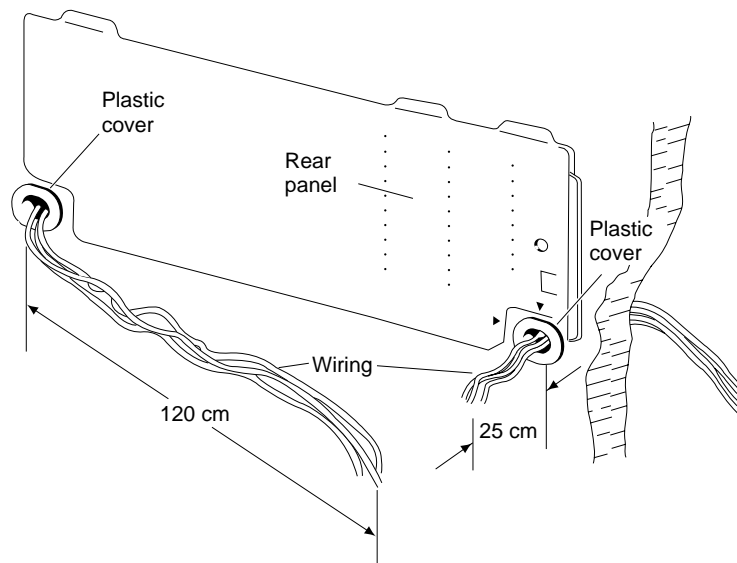

Fig. 21a
- (3) Insert the inter-unit wiring into the through-the-wall PVC pipe. Lead the wiring into the room allowing approx. 30 cm for right side and 120 cm for left side tubings to extend from the wall face. (Fig. 21a)